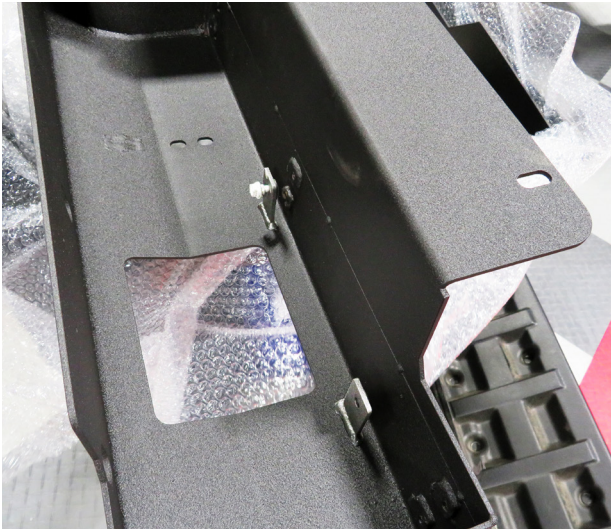
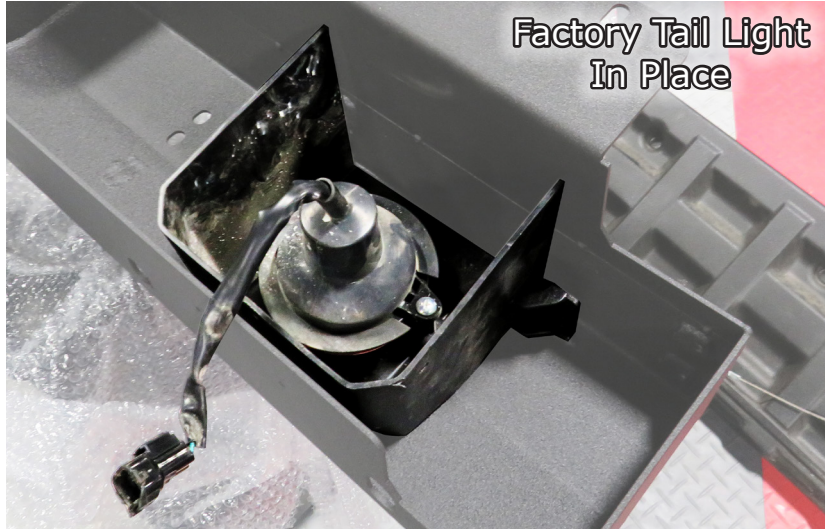

Fig.9a
Fig.9b
9. **Fig.9a** shows the **Bumper Tabs** to mount the **Factory Light Fixtures** to. **Fig.9b** shows the fixture installed, and **Fig.9c-d** show a closer view of your **Factory Hardware** mounting the fixture onto your **New Bumper**.